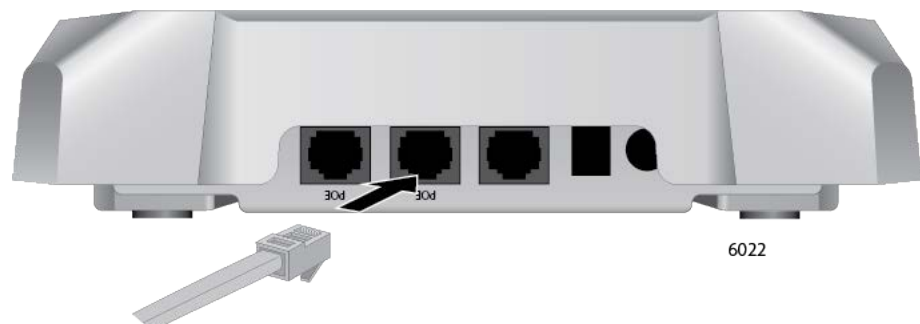

Figure 23. Connecting an Ethernet Cable to the LAN1 Port
1. To cable LAN1 port, connect an Ethernet cable into the port. The cable requirements are in “Cable Requirements” on page 26. Refer to Figure 23.